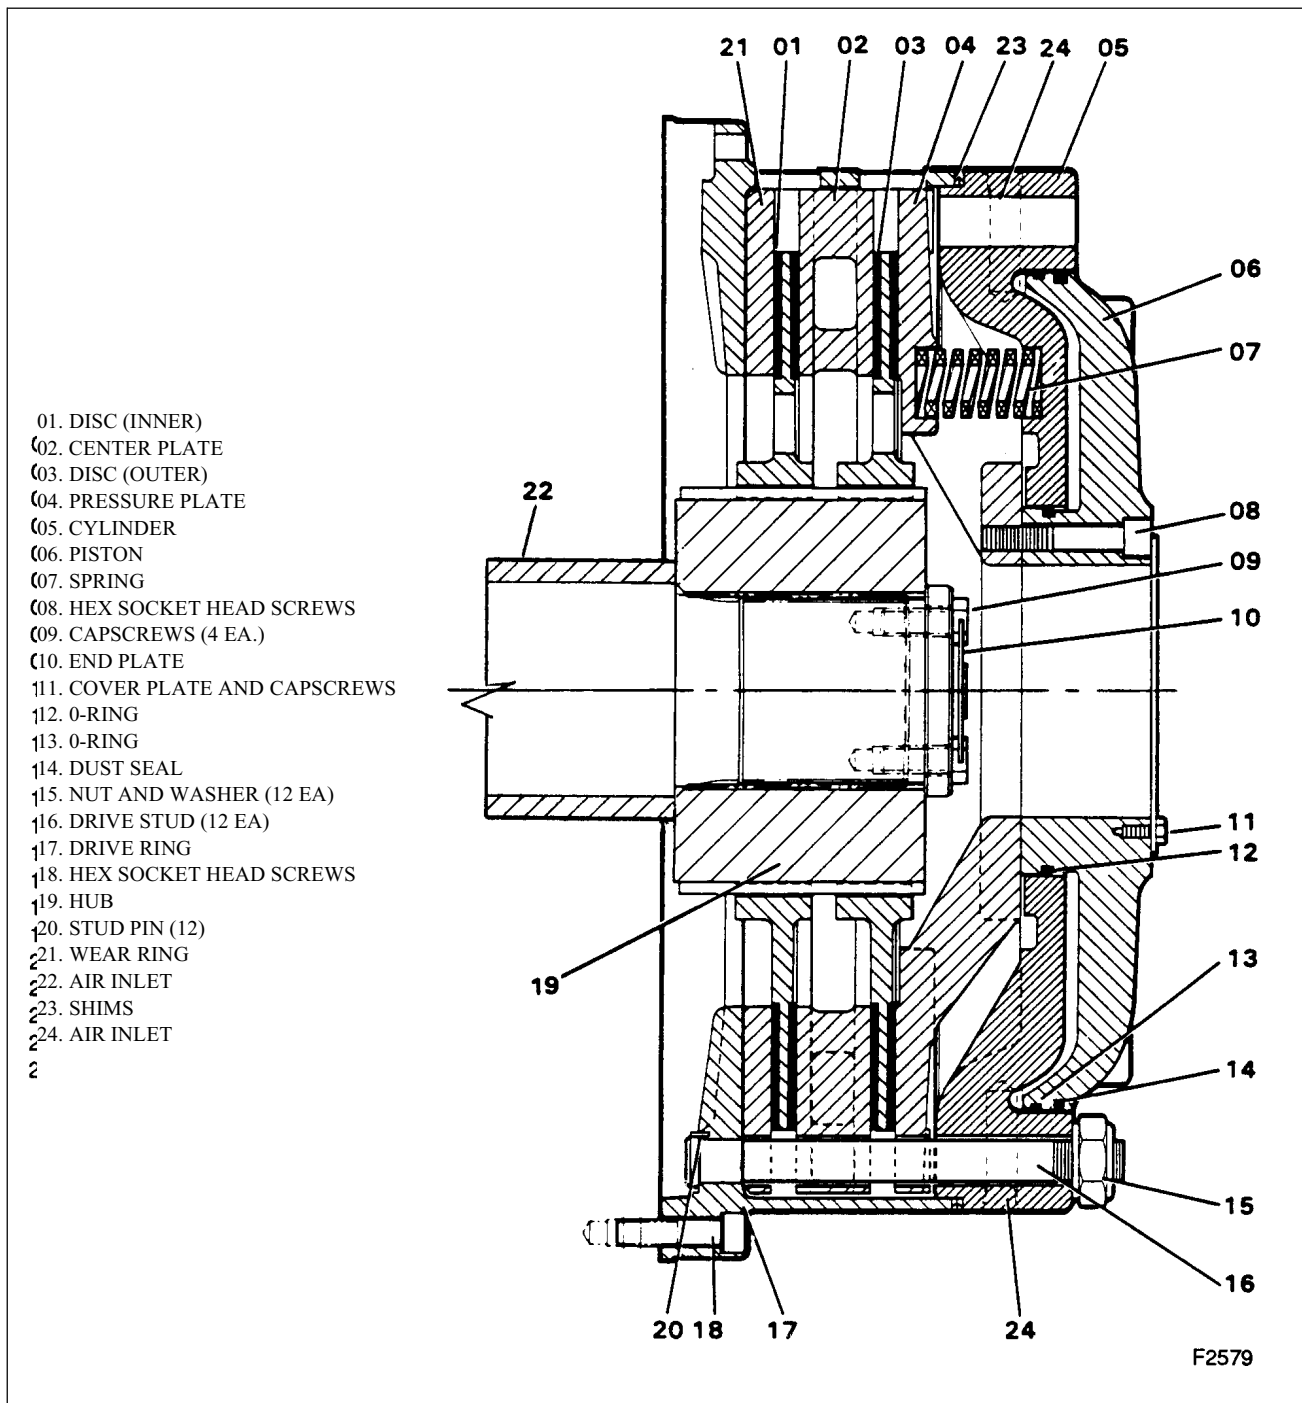

Figure 6-56. Crowd Disc Brake Assembly
- With the brake released, check for running clearance between the friction surfaces and the upper and lower wear surfaces for a minimum total air gap of 0.125 inch (3.175 mm). If total clearance is less, a new 0.09 inch (2.29 mm) shim (23, Figure 6-56) can be added to the present shims.
CYLINDER O-RING REPLACEMENT. To replace the O-rings, refer to Figure 6-56 and proceed as follows:
DISC INSPECTION AND REPLACEMENT. To inspect or replace the brake disc, refer to Figure 6-56 and proceed as follows:
6. Refer to Figure 6-56 and remove the twelve socket head mounting screws (18).
7. Carefully remove the brake assembly from splined hub (19).
9. If necessary, remove lockwire, capscrews (09), retainer plate (10), hub (19), and spacer (22) from the motor shaft.
1. Refer to Figure 6-56 and remove as an assembly the cylinder and piston assembly, made up of brake piston (06), cylinder (05), shims (23) and pressure plate (04) from brake drive ring (17) as follows:
- A. Remove capscrews and cover plate (11) from piston (06).
- B. Remove the twelve nuts and washers (15) from drive studs (16).
- C. Lift the cylinder and piston assembly from drive ring (17).
ASSEMBLY AND INSTALLATION. To assemble and install the brake assembly, refer to Figure 6-56 and proceed as follows: